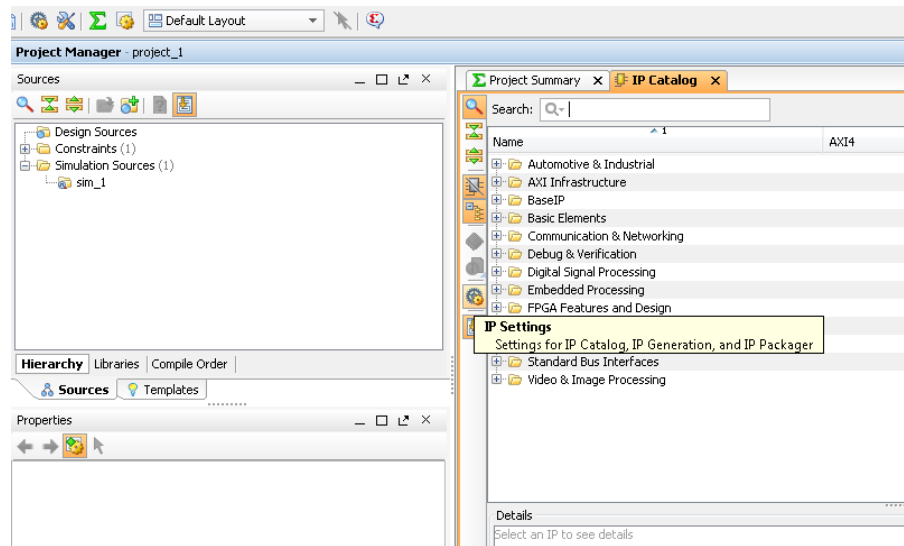

Figure 222: Open the IP Catalog Settings
2. Click the **IP Settings** icon (Figure 222).